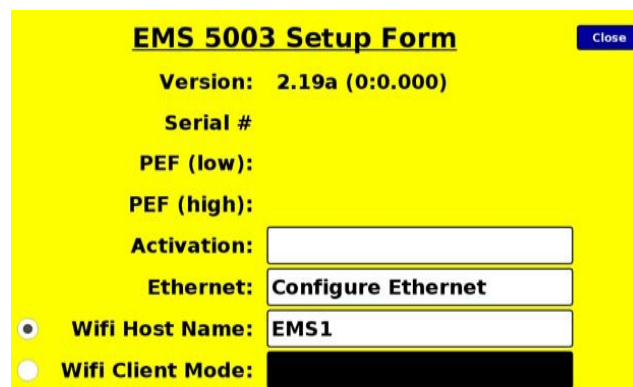

FIGURE 35
- 1) 1) When WiFi Host mode is selected (Figure 35), EMS1 will appear in the window as a default name. You can change this name to what may be required for your shop. Press the WiFi host box and a key pad will appear, clear or back space the default name and enter the new name and press Ent. (enter) to close the key pad.